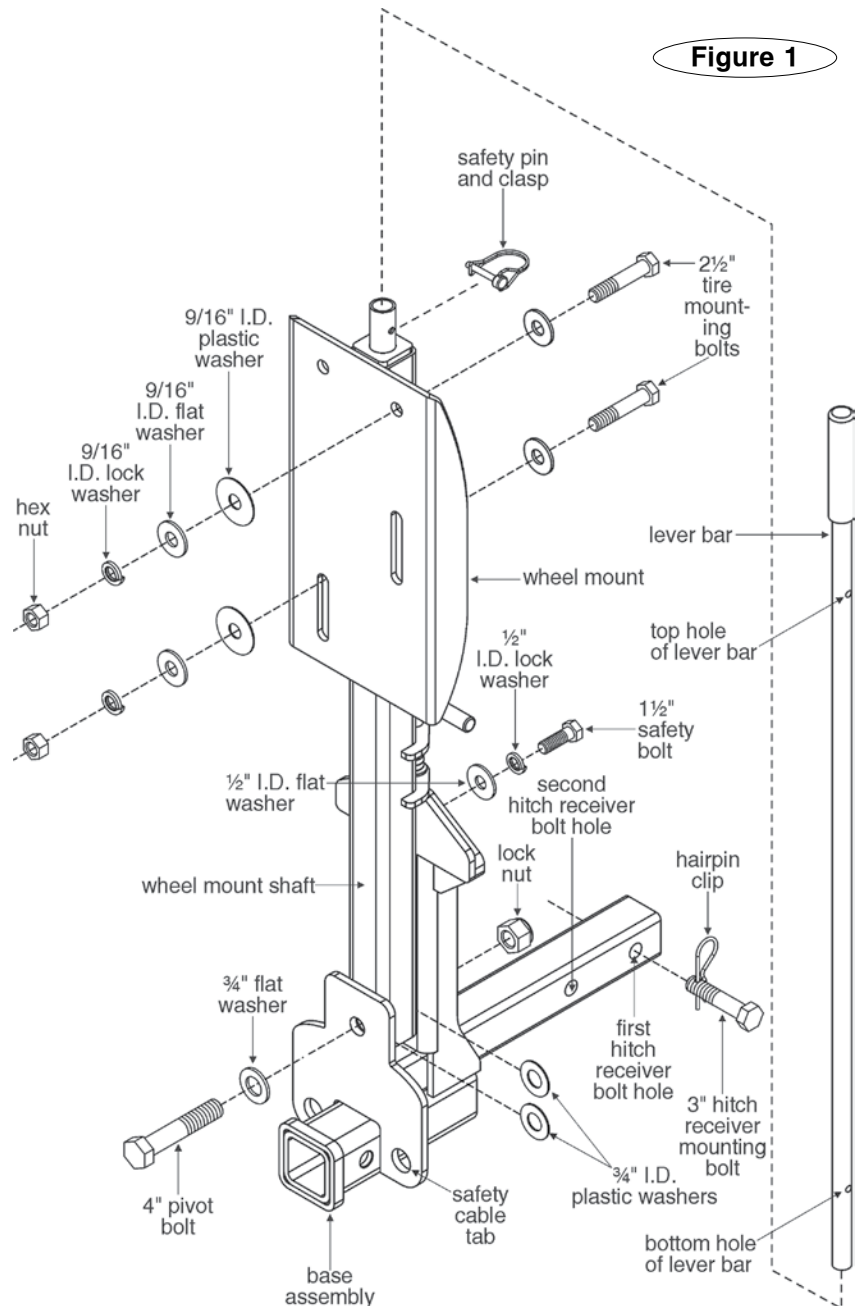

Figure 1
1. Slide the base assembly (Figure 1) into the motorhome hitch receiver until one of the two pre-drilled hitch receiver bolt holes (Figure 1) aligns to the corresponding hole in the hitch receiver.
2. Use the 15/16" socket wrench to attach the 3" hitch receiver mounting bolt (Figure 1). Secure it with the hairpin clip.
3. Position the wheel mount (Figure 1) on top of the base assembly as shown in Figure 1.
Insert the lever bar and pin the bottom hole of the bar to the wheel mount shaft with the safety pin and clasp, as shown in Figure 1.
7. As shown in Figure 1, fasten the $\frac{9}{16}$ " inner diameter plastic washers, flat washers, lock washers and hex nuts to the $2\frac{1}{2}$ " tire mounting bolts.
9. Unpin the lever bar and let it slide inside the wheel mount shaft; reattach the safety pin and clasp to the top hole (Figure 1).
11. When towing, the safety cable tabs (Figure 1) on either side of the spare tire carrier can be used to attach the safety cables.